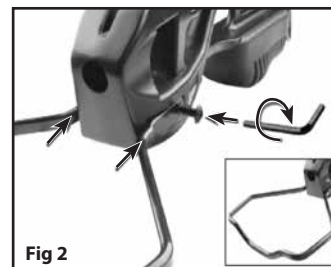

Fig 2
1. Slide the stirrup into the front of the crossbow and tighten screws on both sides with the medium hex wrench. (Fig 2)